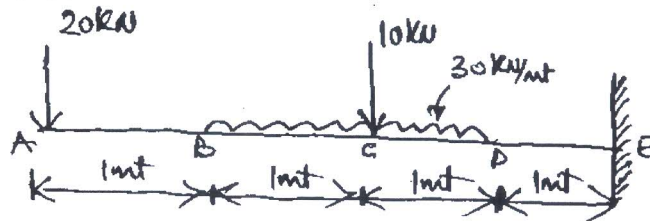

Fig.Q6(b)
- b. Plot the elastic curve and find maximum slope and deflection (maximum) for cantilever beam shown in Fig.Q6(b). Take $EI = 6 \times 10^{13}$ N mm². (14 Marks)